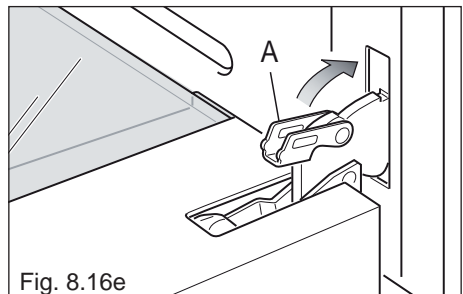

Fig. 8.16e
- Unlock the oven door by opening it completely and closing the lever "A" on the left and right hinges (fig. 8.16e).